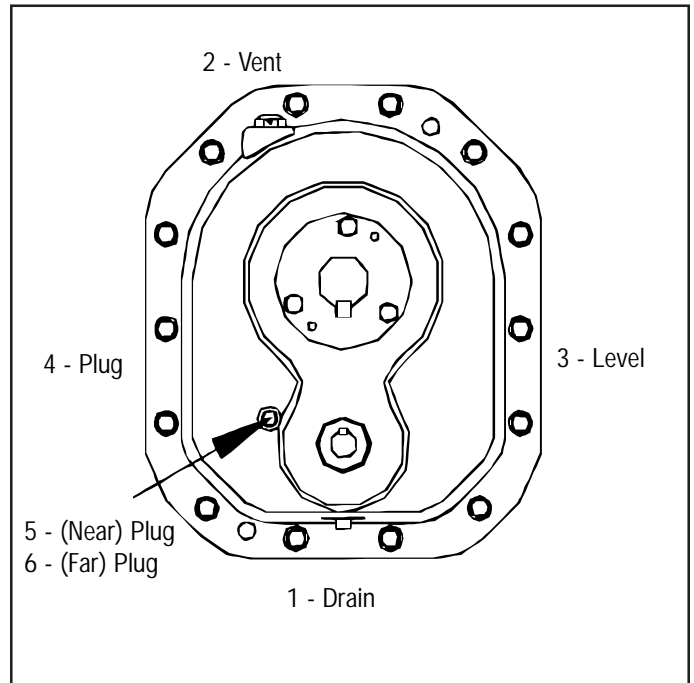

Figure 1 - Mounting Position
2. The running position of the reducer is shown in Figure 1. The reducer is supplied with 6 plugs. Install the magnetic drain plug in the hole closest to the bottom of the reducer. Discard the tape that covers the vent plug in shipment and install this plug in the topmost hole. Of the two remaining plugs on the sides of the reducer, the lowest one is the minimum level plug.
The running position of the reducer can vary from the vertical position shown in Figure 1. In certain sizes of elevator drives, the reducer is swung by shortening or lengthening the turnbuckle. This is to obtain the correct center distance for drive belt from the motor. If the reducer is located to a position of over 20° from the vertical position shown, the oil level plug cannot be used safely to check the oil level. Disconnect the turnbuckle torque arm and swing to within 5° of vertical position to check the oil level.